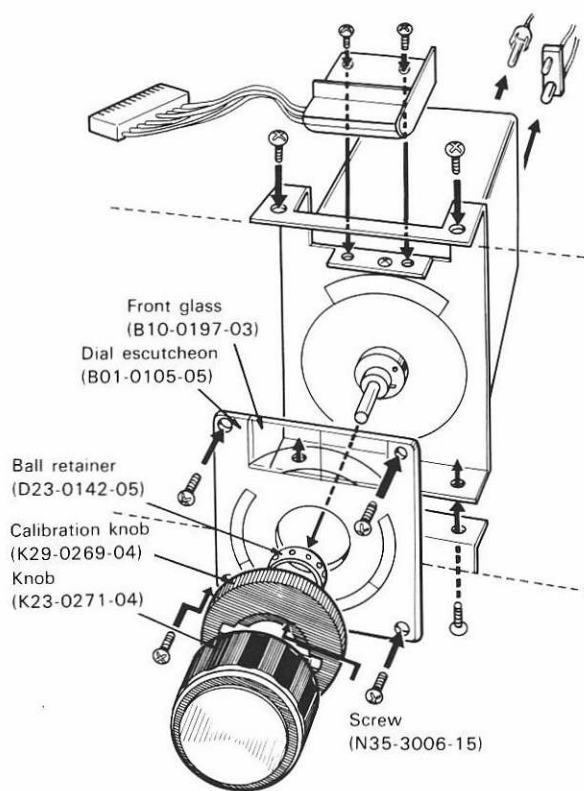

Fig. 14 Removing VFO
- 2) Remove the dial escutcheon and front glass according to **Fig. 14**.
- 3) Remove the four mounting screws from the VFO unit and subchassis of the body front according to **Fig. 14**.
- 1) Remove the knob and dial escation as shown in **Fig. 14**.
- 6) Install the dial escation and knob as shown in **Fig. 14**.